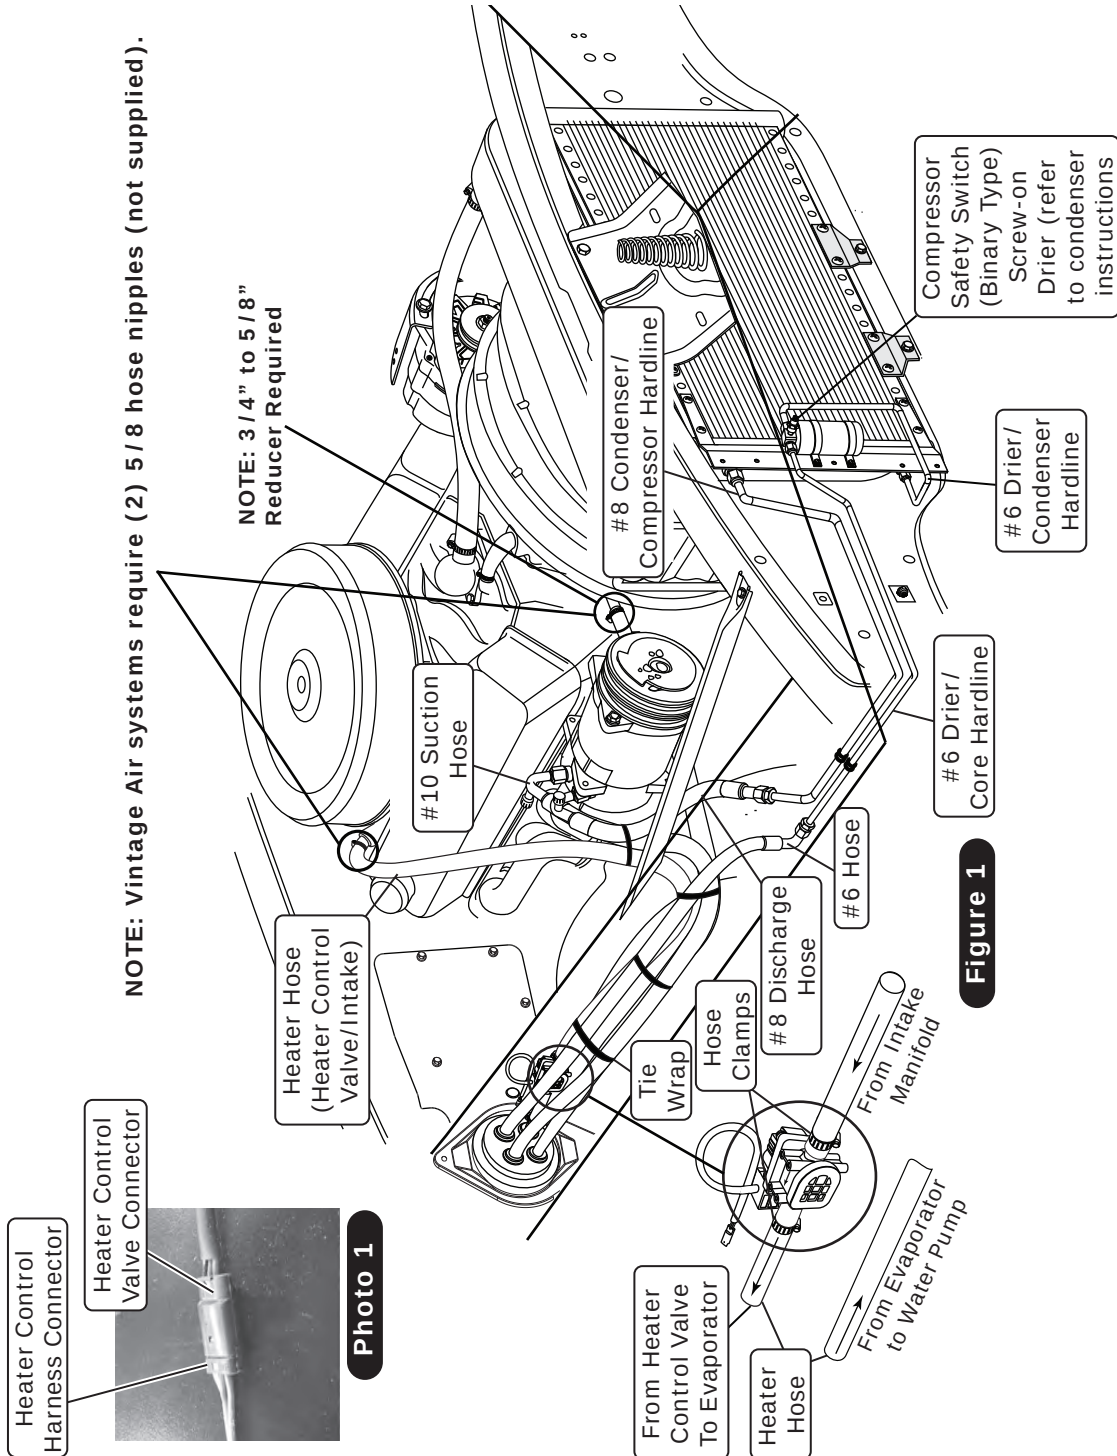

Figure 1
2. Route a piece of heater hose from the intake to the bottom heater fitting of the heater core as shown in Evaporator Installation, Photo 2, Page 18, and Figure 1, below. **NOTE: Install the heater control valve (the flow direction follows the molded arrow on the valve) in line with the intake manifold (pressure side), heater hose, and secure using hose clamps as shown in Figure 1, below. Also note proper flow direction.**